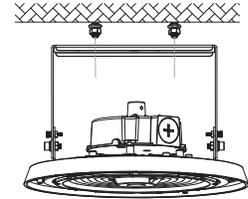
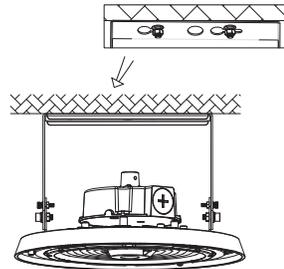

Figure 5
Figure 6
3. Align the bracket hole with screw hole (Figure 5), and push the fixture to one side (Figure 6) and fix it.